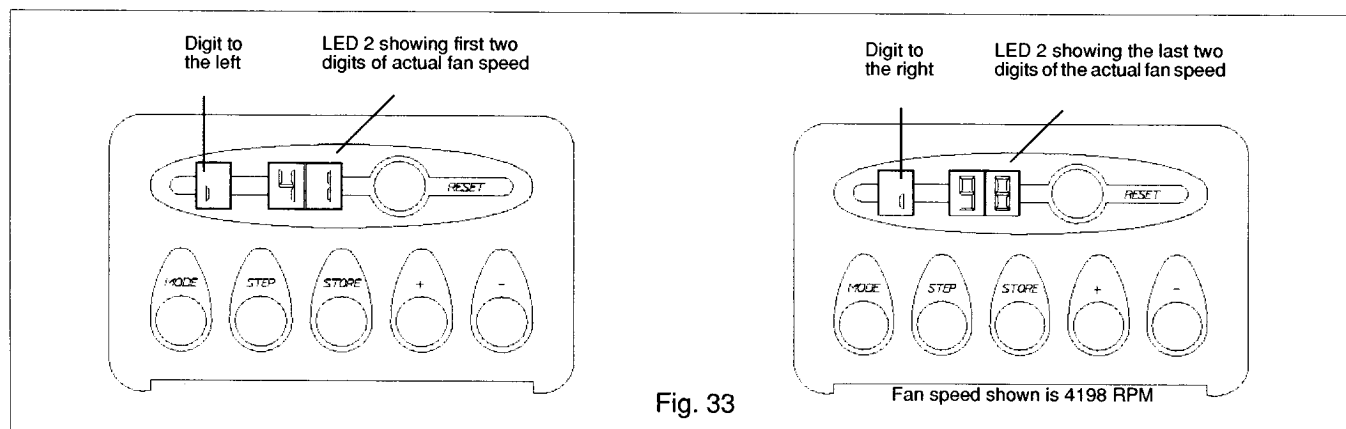

Fig. 33
- Adjust the value (LED 2) using the +/- buttons (see fig. 33)
- when 'H' is displayed in LED 1, press the MODE button until LED 1 shows an alternating cursor (see fig. 33);
- press the MODE button until LED 1 shows an alternating cursor (see fig. 33);